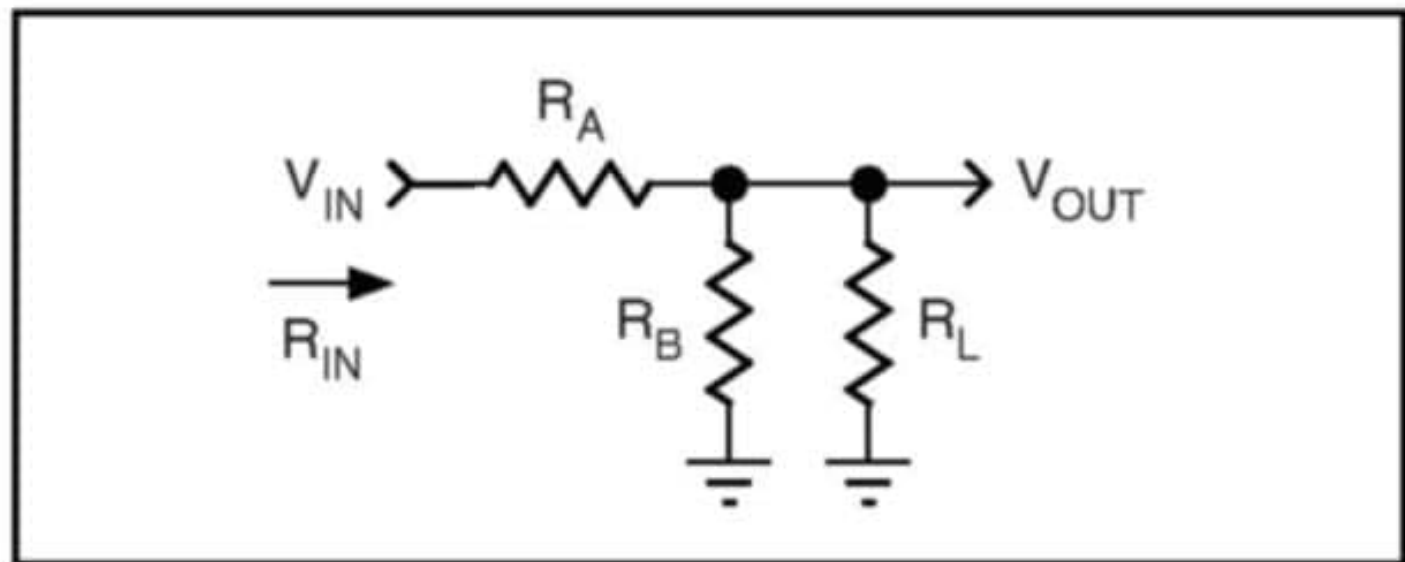

Figure 3: This schematic shows the attenuator stage.
The “secret” to cascading attenuators in any number or order is to design them with source and load impedances in mind. Home audio does not require matched transmission lines. The distances within a component and even between components is typically short and audio wavelengths are quite long. It is only necessary to match the impedance on one side of the attenuators to allow cascading. If one assumes a fixed load resistance (R_L in **Figure 3**), just two resistors (R_A and R_B) are required to provide the desired stage attenuation (A) and still present the value of R_L to the preceding stage. Equation 1 shows the calculation of attenuation (linear) for the circuit in Figure 3. Equation 2 shows the calculation for its input resistance, R_{IN} . It is desired that this equal R_L .